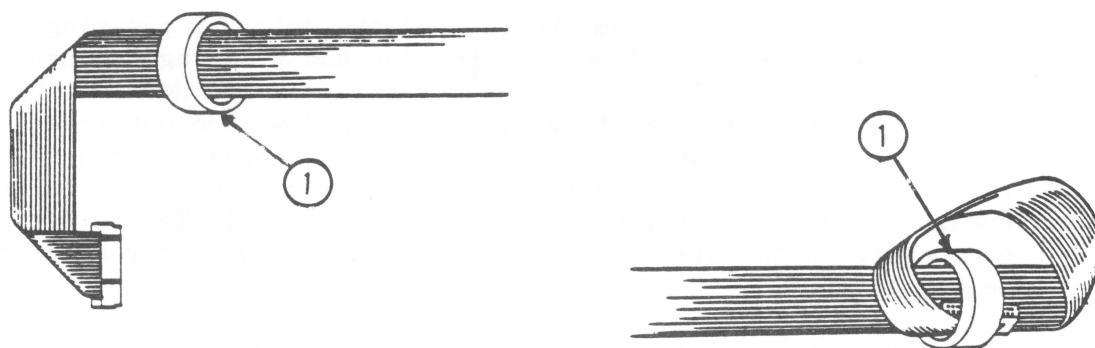

FIGURE 3
14. When replacing the ribbon cable, twist the cable connector slightly, push it through the toroids and remove the toroids from the cable (Figure 3,#1).